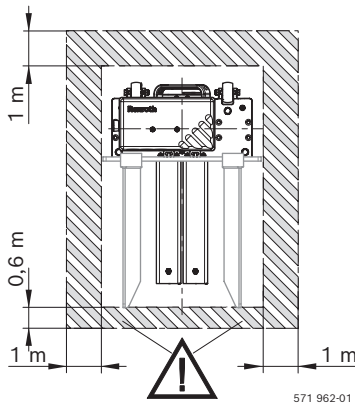
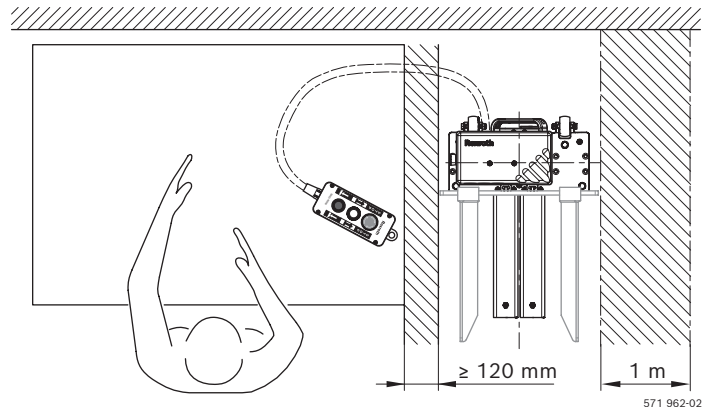

Fig. 1: Case lifter with marked danger area (yellow/black)
Fig. 2: Operation adjacent to a workstation with marked safety distances
Observe the suggestions illustrated in Fig. 1 and Fig. 2:
- Freestanding application (Fig. 1)
- Operation adjacent to a workstation (Fig. 2)